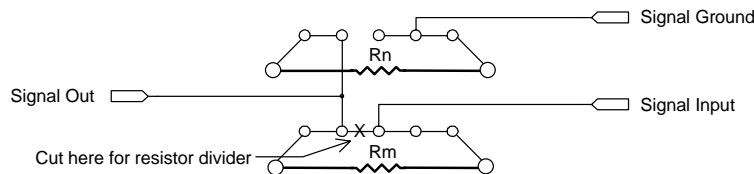
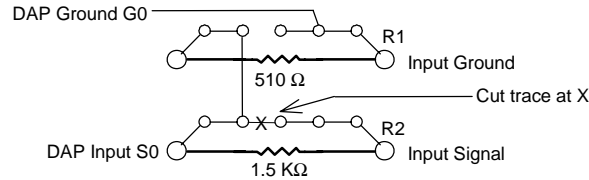

Figure 3. Resistor Placement
Figure 4. Resistor Circuit for S0
To configure the Analog Termination Board for a current input, place a resistor in the location on the termination board corresponding to the input pin being reconfigured. Figure 3 and Table 2 show resistor placement. The appropriate size for this resistor can be calculated using Ohm's Law, given the maximum input current and the input voltage range of the Data Acquisition Processor.
Once the trace is cut, the resistors for the voltage divider are soldered into place. The resistor on the ground side of the divider is placed in an odd-numbered resistor location and the resistor on the input signal side of the divider is placed in an even-numbered resistor location. Figure 3 and Table 2 illustrate resistor placement for each input.
* The current input resistor is placed in the R_n location shown in Figure 3.
** The first resistor is on the ground side of the voltage divider (R_n), the second is on the input signal side (R_m), as shown in Figure 3. For example, R1 is R_n and R2 is R_m . Figure 4 shows the resistor placement for this example.
Figure 3 and Table 2 can be used to locate the appropriate resistors when using either the current input or voltage division configuration. Figure 3 shows schematically how the inputs and grounds on the termination board are
Resistance values of 1500 ohms and 500 ohms may be used. The trace beneath the X above R2 is cut. Then the 500 ohm resistor is placed in the R1 position and the 1500 ohm resistor is placed in the R2 position. Since 500 ohm resistors are not commonly available, a 510 ohm resistor would typically be used instead, resulting in a small error in the division ratio. This error is linear and can be corrected by multiplying by a constant in DAPL. Figure 4 illustrates the circuit for this example.